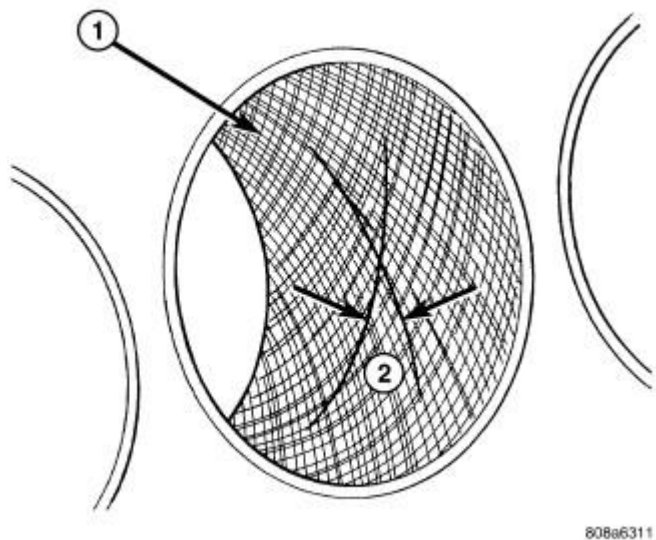

Fig. 182: Cylinder Bore Cross-Hatch Pattern
2. Honing should be done by moving the hone up and down fast enough to get a cross-hatch pattern. When hone marks **intersect** at 30-50 degrees, the cross hatch angle is most satisfactory for proper seating of rings. Refer to **Fig. 182**.